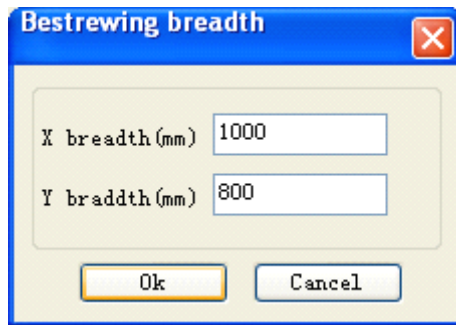

Figure 1-38
- ① Click on the *Bestrewing breadth button*, a menu as figure 1-38 will pop up:
- ② As shown in figure 1-38, input the actual *X breadth* (e.g.: 1000mm) and the *Y breadth* (e.g.: 800mm), click on the *OK* button.